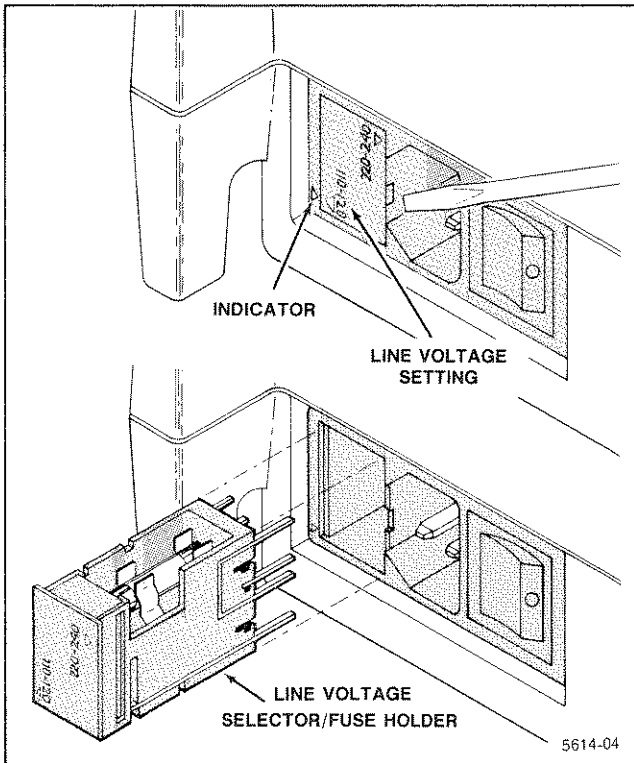

Figure 2-2. Fuse holder/line voltage selector.
The power-input module located on the rear panel of the instrument houses a Line Voltage Selector, two line-fuses and a power cord connector. The present line voltage setting is indicated on the selector. The range in line voltage covered by each position is given in Table 2-1. If it is necessary to convert the instrument for operation with a different line voltage, perform the following procedure (refer to Figure 2-2).
2. Using a flat-bladed screwdriver, pry out the Line Voltage Selector. (Refer to Figure 2-2.)
4. Rotate the Line Voltage Selector so the proper range lines up with the indicator on the frame of the power-input module (refer to Figure 2-2), and insert it back into the module.